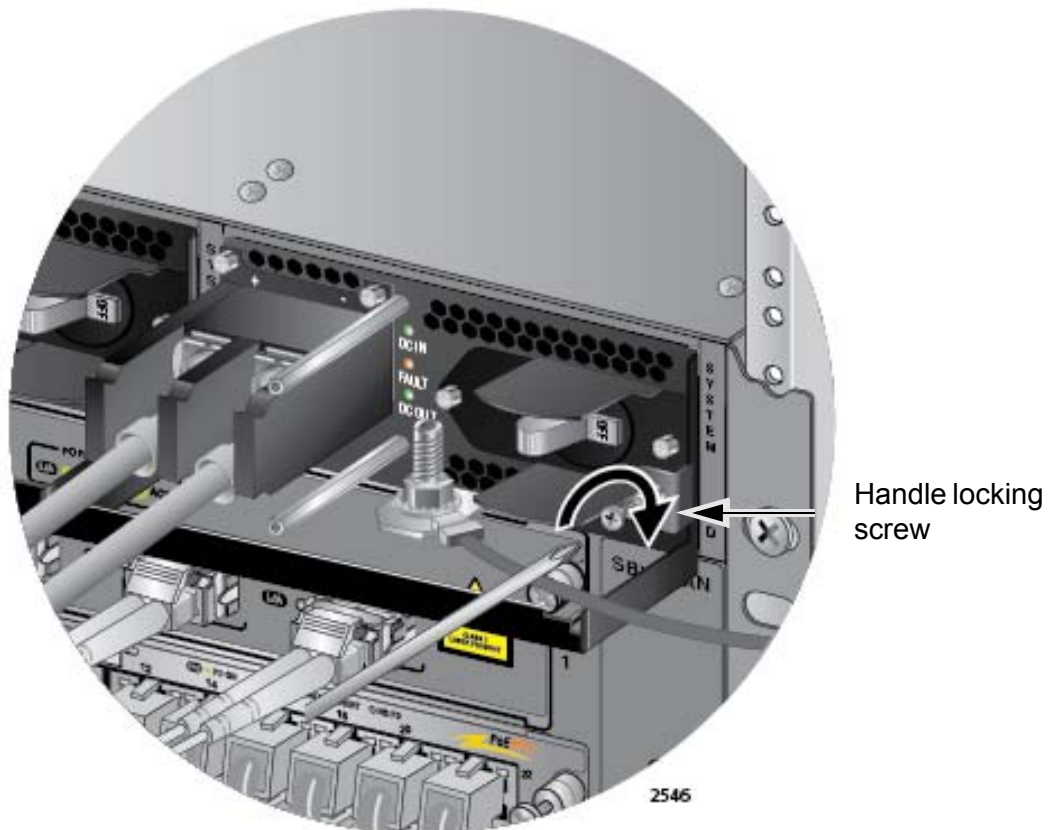

Figure 137. Tightening the Handle Locking Screw
6. With a #2 Phillips-head screwdriver, tighten the handle locking screw to secure the power supply to the chassis. See Figure 137.